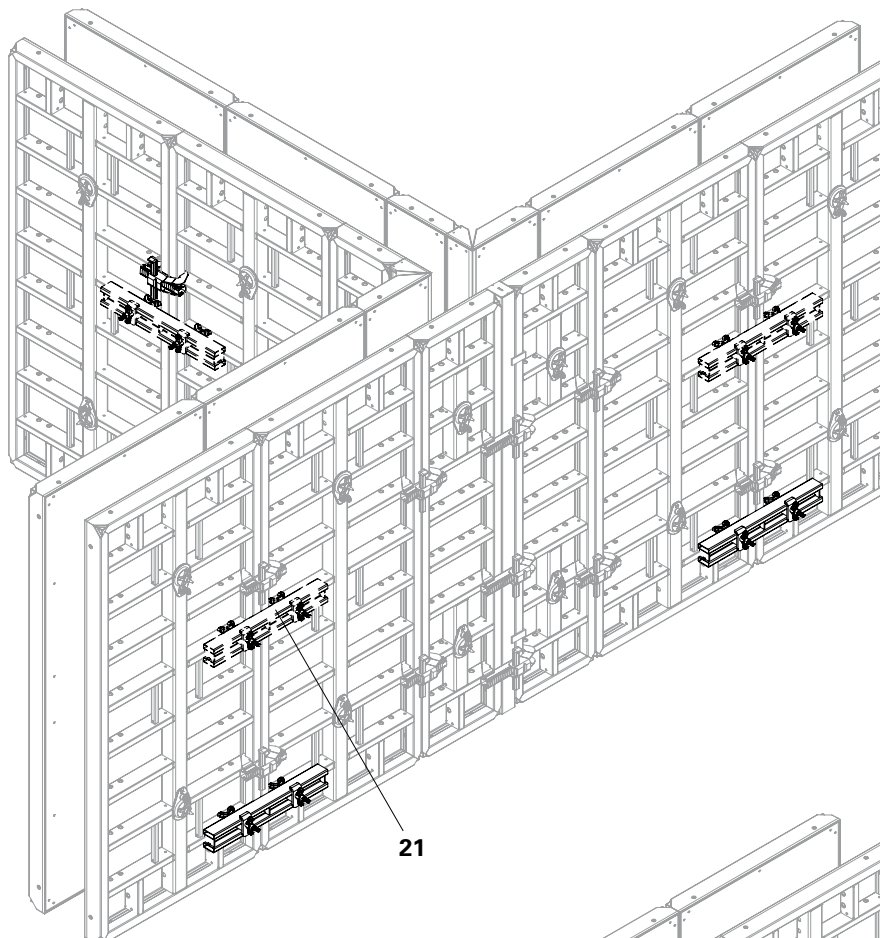

Fig. B6.02
With extensions, a second Compensation Waler MAR 85 (21) is required on the panel joint (shown as a dotted line). (Fig. B6.02 + B6.03)